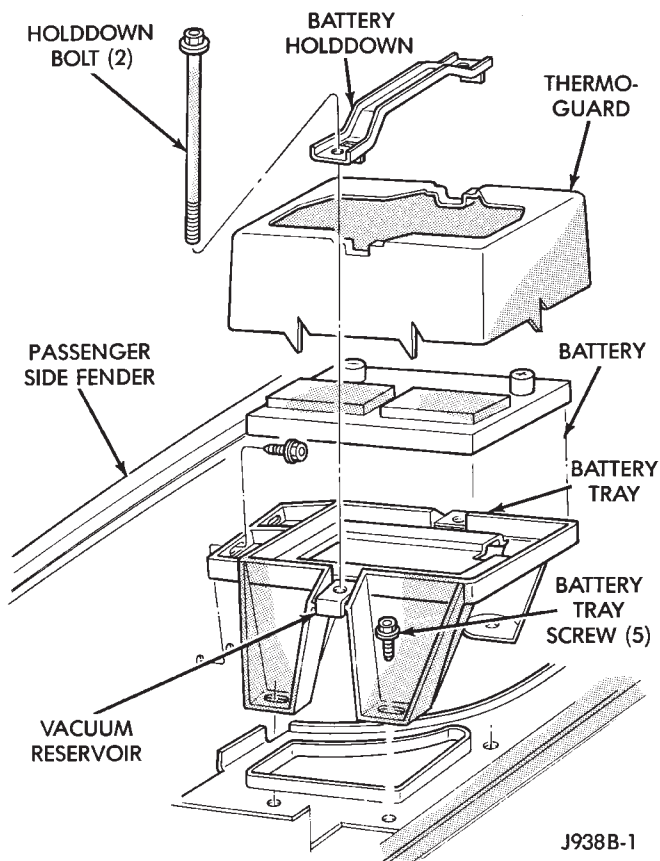

Fig. 19 Battery Tray
(1) Remove 2 bolts and holddown bracket from battery tray (Fig. 19).
(1) If removed, install vacuum reservoir and screws to bottom of tray.
(2) Position battery tray on inner fender panel. Connect vacuum lines to reservoir.
(3) Attach battery tray to inner fender panel with the 5 screws (Fig. 19). Tighten screws to 10 N•m (7 ft-lbs) torque.
(4) Install battery in tray.
(5) Position upper holddown bracket over battery.
(6) Install holddown bracket and holddown bolts. Tighten the bolts to 10 N•m (7 ft-lbs) torque.